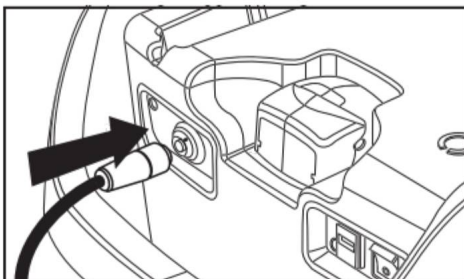

Figure 5. Connecting cable into Generator.
1. Remove the Delivery Device RF cable and plug into generator, ensuring white dot on the top of the plug is aligned with red dot on the generator port (Figure 5).